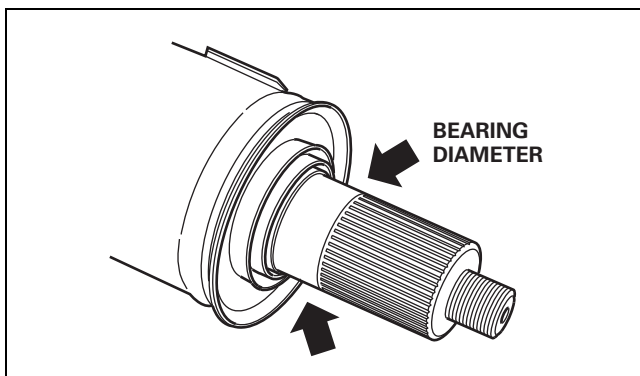

Figure 9.15
- If the coupling shaft is damaged from a seized bearing: Replace the entire coupling shaft. Figure 9.15.